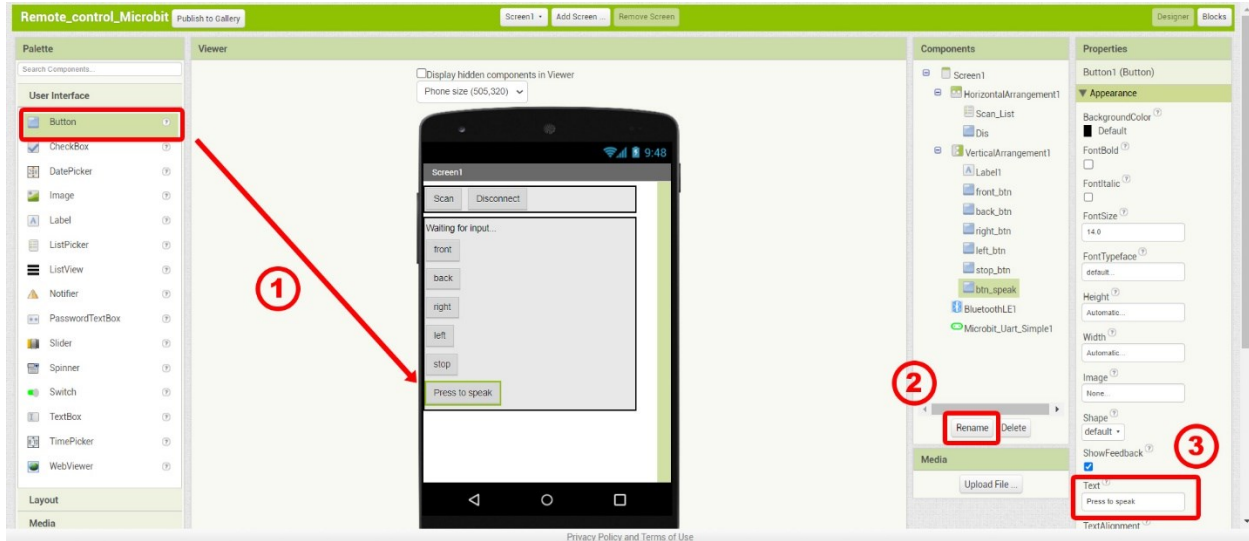

Figure 19: Adding a new button (1) and renaming to btn\_speak (2), while changing the text to Press to speak (3)
First, you need to add a new button that will activate the Speech Recognition AI service. Drag and drop a Button item under the navigational buttons (1), rename it to btn\_speak (2), while changing its text to “Press to speak” (3) (Figure 19).